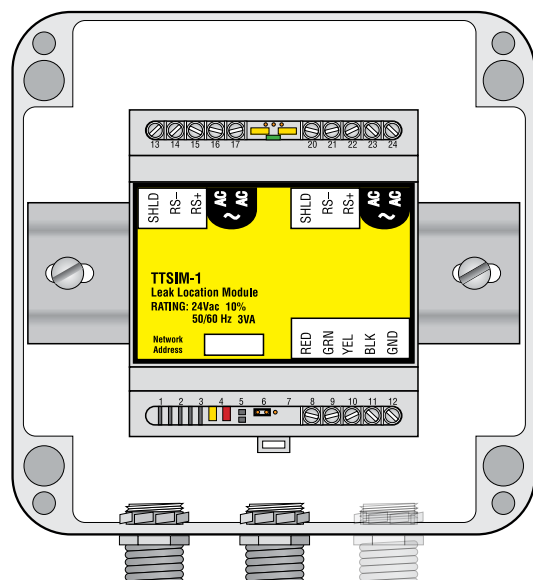

Figure 2. NEMA 4x Enclosure
MOUNTING THE TTSIM-1 MODULE IN THE OPTIONAL NEMA-4X ENCLOSURE – FIGURE 2
- A typical outdoor or harsh environment installation will require up to three holes in the TTSIM-ENC: one for inbound power and telemetry, one for outbound power and telemetry and one for the sensor cable leader. See Figure 2.